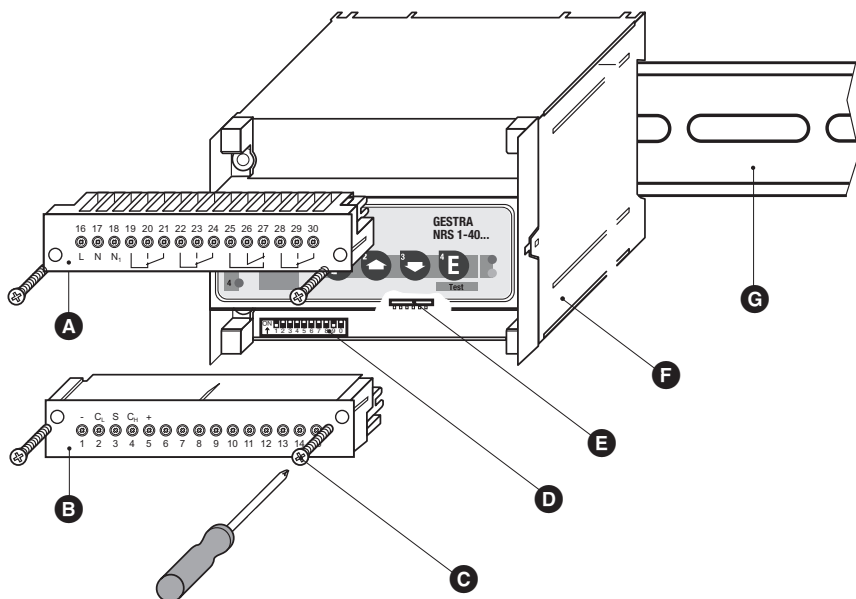

Fig. 4
1. Unplug the upper **A** and lower terminal strips **B**. (see **Fig. 4**)
3. Set code switch **D** and **E** as required, **Fig. 4**.
The control unit NRS 1-40.1 / NRS 1-40.2 is clipped onto a support rail **G** type TH 35, EN 60715 in the control cabinet. (see **Fig. 4**)
The baud rate is set via code switch **Ⓓ** Fig. 4 (S 8 to S 10). Default factory setting of control unit NRS 1-40.1 / NRS 1-40.2: baud rate 250 kBit/s (cable length up to 125 m). For longer cable lengths reduce baud rate accordingly.
To change the baud rate undo the left and right fixing screws, and detach the lower terminal strip. Set the baud rate via code switches **Ⓓ** S 8 to S 10 as specified in the table in section “Bus cable, cable length and size” by using a thin blade screwdriver, Fig. 4. Re-insert terminal strip **Ⓔ** and fasten the fixing screws **Ⓒ**.
Set the baud rate via code switch **B** **Fig. 4** (S 1 to S 6) as specified in the table by using a thin blade screwdriver.